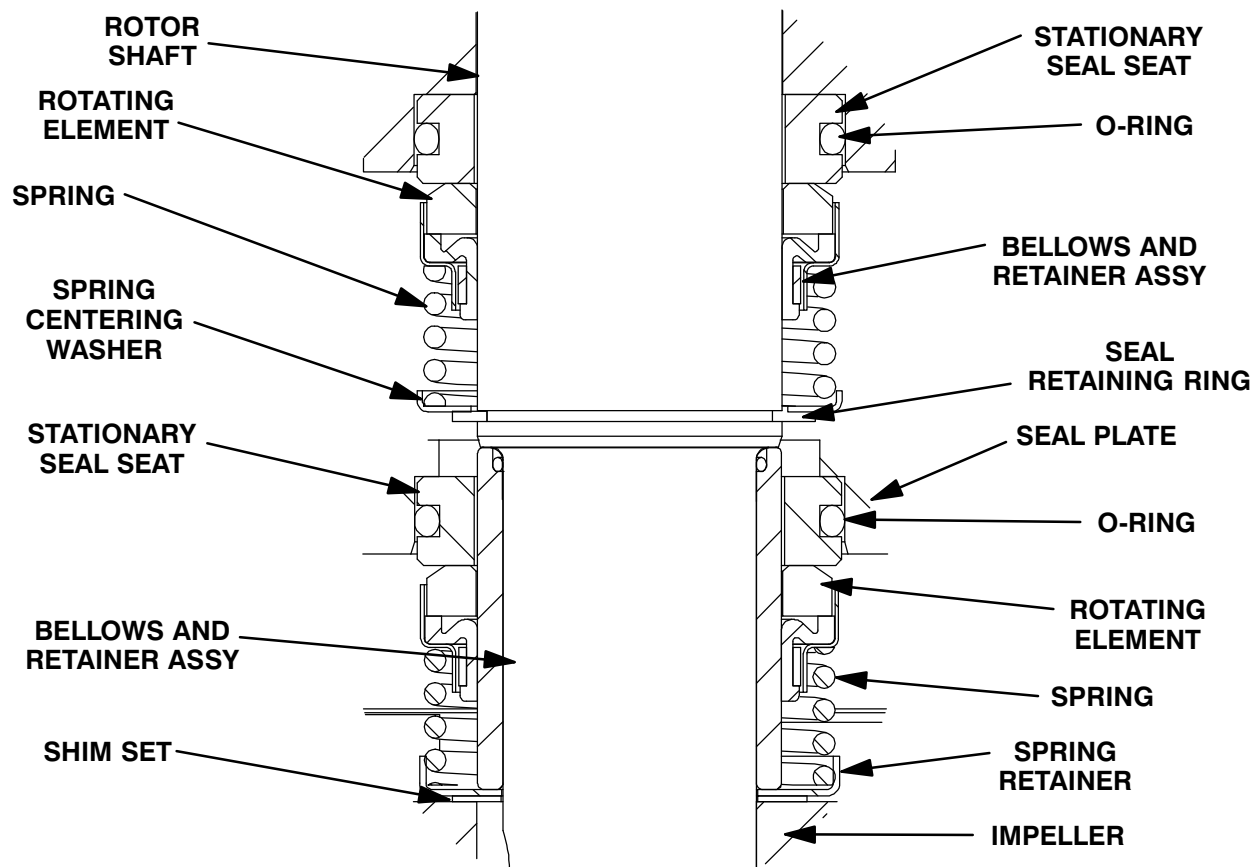

Figure E-3. Upper And Lower Seal Assemblies
Install the shaft seals as illustrated in Figure E-3.
Slide the seal spring over the shaft and bellows retainer and install the spring centering washer. Install the seal retaining ring (10). See Figure E-3 for the proper order of seal assembly.
Install the seal spring over the bellows retainer and install the spring retainer (27). See Figure E-3 for proper order of seal assembly.